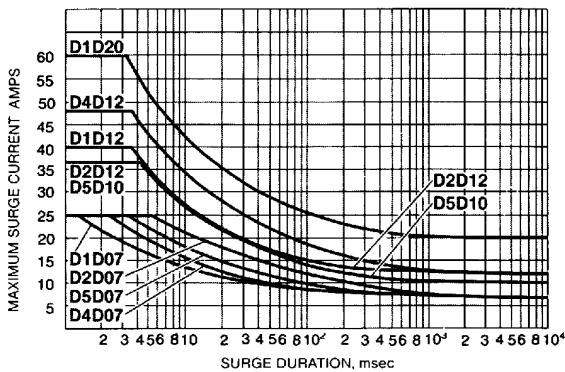

Figure 2. Maximum Surge Current vs. Duration
- ② See figures 2 and 3.
- ③ Case temperature T_c=80°C.
- ④ Junction temperature T_j (max.)=125°C, (D1D40=150°C)
- ⑤ Over temperature range -30°C≤T_A≤80°C
- ⑥ Dielectric and insulation resistance measured between input and output, and both to baseplate.
The curves in figures 2 and 3 apply to a nonrepetitive uniform amplitude surge of a given time and peak current, preceded by an off-state and followed by any rated load condition. The junction temperature must be allowed to fall below 80°C before reapplication of surge.